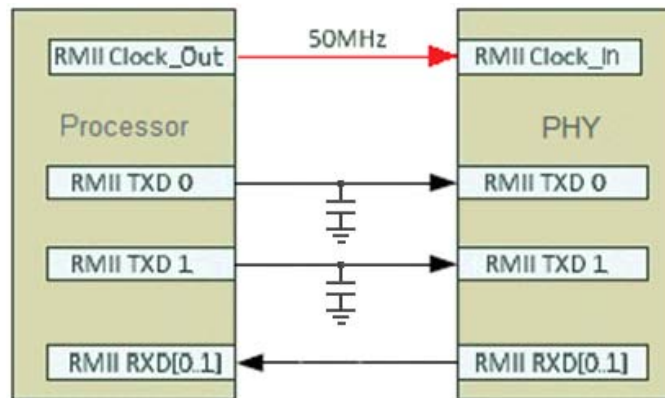

Figure 41. Workaround based on TX data delay
- For each TX data line, add an external capacitor to ground (see Figure 41) and decrease pad drive-strength (that is increasing internal impedance). Reduction of the pulse edge slope is equivalent to delaying the TX data with respect to the reference clock. To meet the RMIi specification hold-time requirements reliably, tune the pad drive-strength and / or the external capacitance.